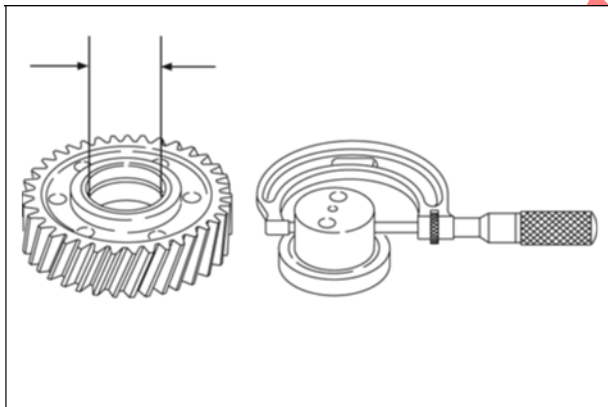

Figure 7
3. If back lash exceeds 0.008 in. (0.2 mm) check idler gear bearing and shaft for wear (Figure 7).